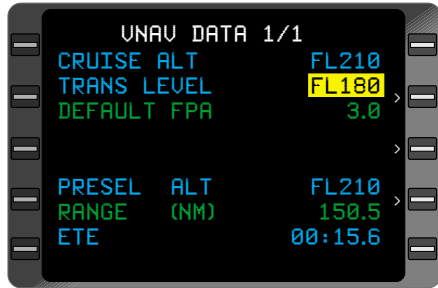

Figure 3-121
6. Transition Level - INSERT or VERIFY. (Figure 3-121)